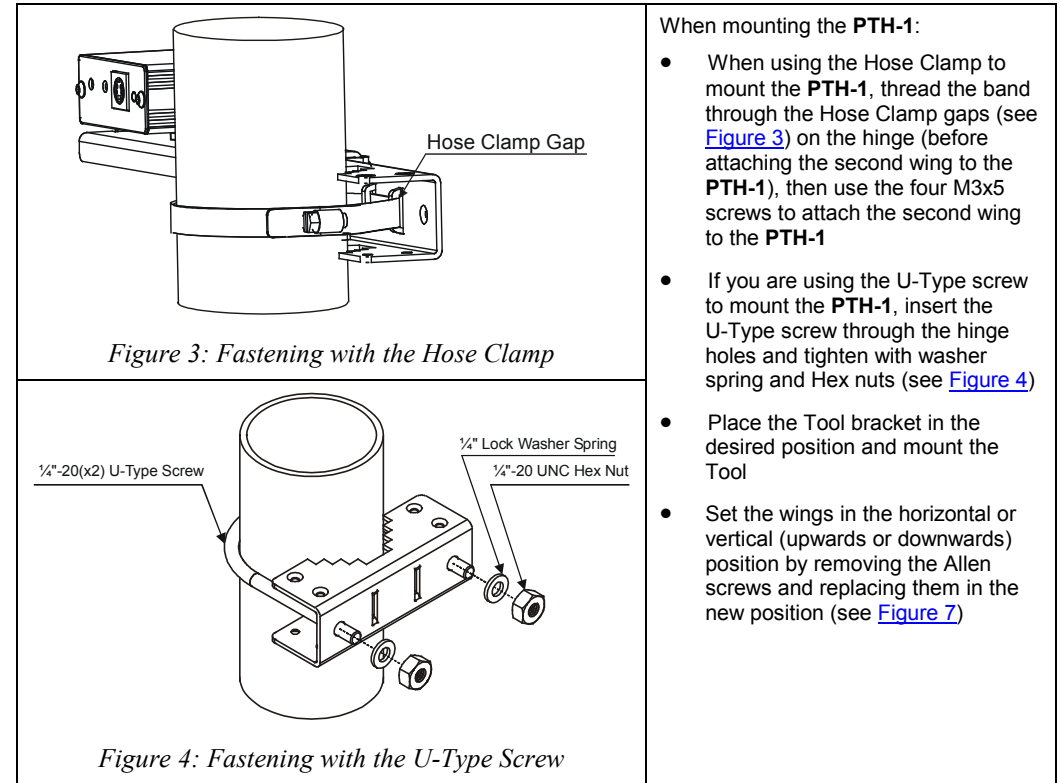

Figure 3: Fastening with the Hose Clamp
The hinge (with one or two wings attached) is mounted on the projector column by fastening the Hose Clamp around the projector column (see Figure 3), or, when using the U-type screw, by tightening the screw nuts to fix the **PTH-1** in place (see Figure 4).
- When using the Hose Clamp to mount the **PTH-1**, thread the band through the Hose Clamp gaps (see Figure 3) on the hinge (before attaching the second wing to the **PTH-1**), then use the four M3x5 screws to attach the second wing to the **PTH-1**